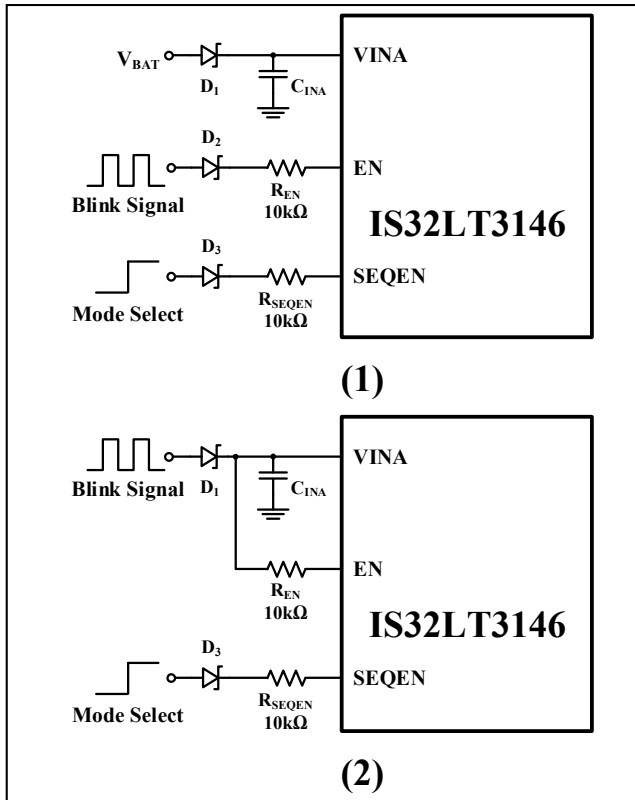

Figure 39 BCM Blink Signal Connection
In the turn light applications, there is a BCM (Body Control Module) ON/OFF blink signal which can be applied to the EN pin of IS32LT3146 via a 10kΩ resistor and an independent static power supply rail can be used to supply the VINA pin of IS32LT3146, as shown in (1) of Figure 39. Unfortunately, in most turn light applications, there is no independent static power supply rail but only the BCM ON/OFF blink signal which plays the power supply role as well. If so, the BCM ON/OFF blink signal can be directly applied to the VINA pin with the EN pin tied to the VINA pin via a 10kΩ resistor, as shown in (2) of Figure 39. Where, the D₁, D₂ and D₃ are reverse polarity protection diodes.